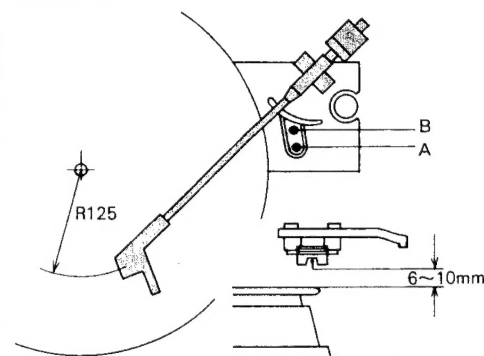

Fig. 6
- (a) Set the cueing knob to ∇ position and move the tonearm over the record surface (Fig. 6). The clearance between the stylus point and the record should measure between 6–10 mm (0.24–0.39 in.). This dimension is set by screw A (Fig. 6).
- (b) Move the tonearm to the end of the record and slowly rotate the turntable platter until the tonearm starts returning. Stop the platter rotation when the tonearm is in the approximate position as above. Again measure the distance between the stylus point and the record surface. This measurement should be approximately the same clearance 6–10 mm (0.24–0.39 in.). If the height needs to be adjusted, adjust screw B (Fig. 6).